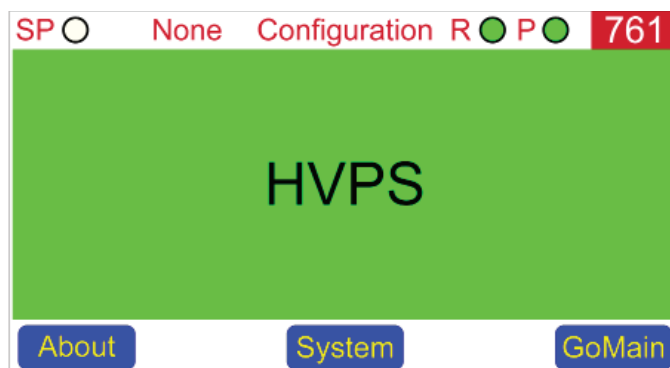

Figure 7. Configuration display
The Configuration display provides access to both the controller-specific and channel-specific menu settings. Figure 7 shows all the various options available through the Configuration screen. The Status Bar will reflect the title of the selected screen. The Terranova® 760 series will return to the Main Display if left unattended for more than 5 minutes.
1. Tap **Config** to enter the Configuration display (see Figure 7)